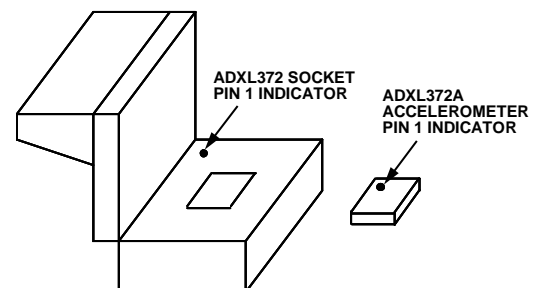

Figure 10. **Location of Pin 1 Indicator for the ADXL372 Accelerometer and Socket**
1. Place the **ADXL372** accelerometer into the socket on the satellite board. The Socket Pin 1 indicator is located inside the socket near the hinge, as shown in Figure 10. Ensure that this pin indicator aligns with the Pin 1 indicator on the **ADXL372**.